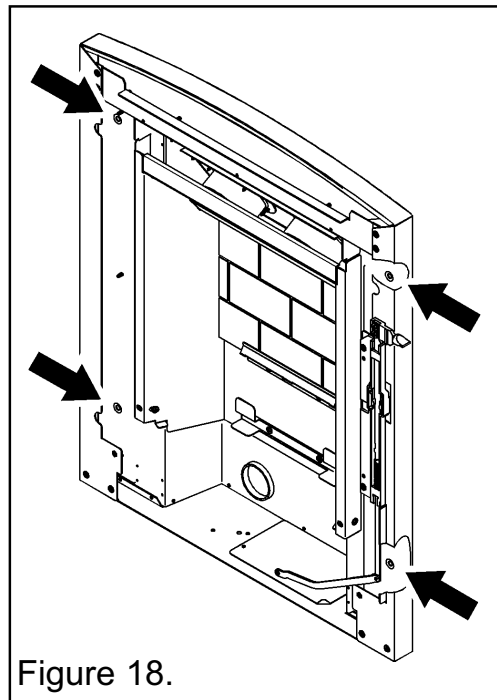

Figure 18.
3. Mark the fireplace front surround through the four fixing holes in the side flanges of the convection box (See figure 18).